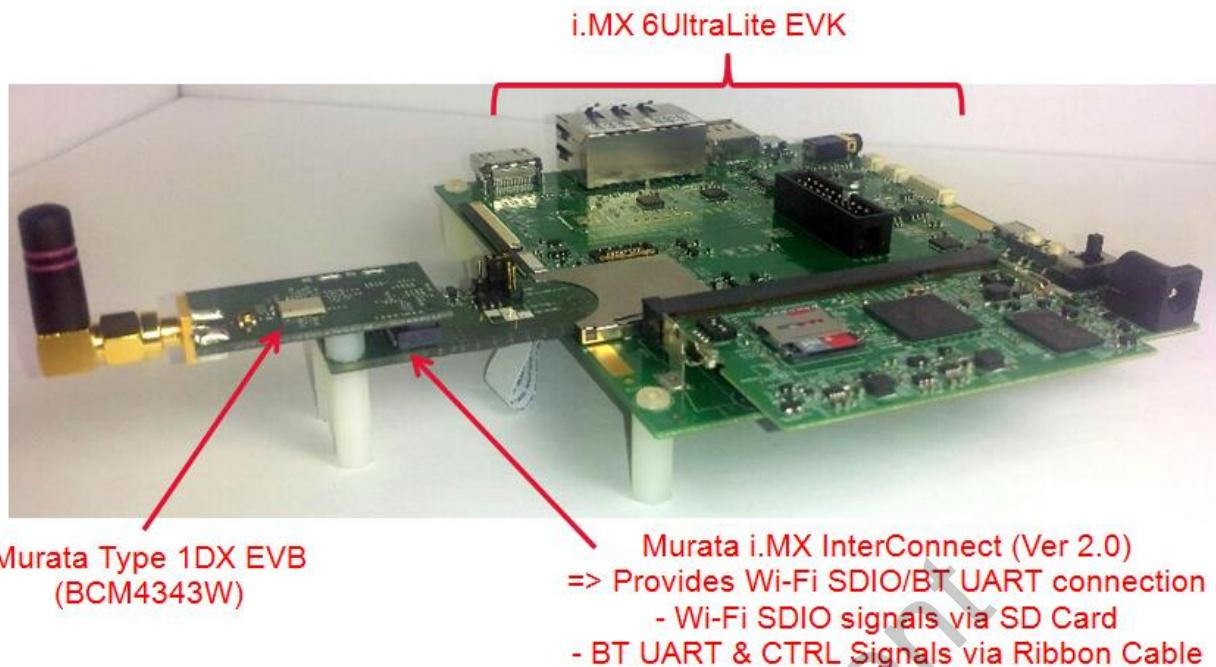

Figure 38: Murata Type 1DX Kit plugged into Freescale i.MX 6UltraLite EVK using Version 2.0 Adapter
i.MX 6UltraLite EVK (Rev C) and Murata i.MX InterConnect Ver 2.0 Adapter Board provides Wi-Fi/BT connectivity by default with no rework required. However if out-of-band interrupts are desired, then a minor resistor change is necessary on Freescale EVK (to connect WL\_HOST\_WAKE signal). Figure 38 shows Murata Type 1DX Kit plugged into Freescale i.MX 6UltraLite EVK using Version 2.0 Adapter.